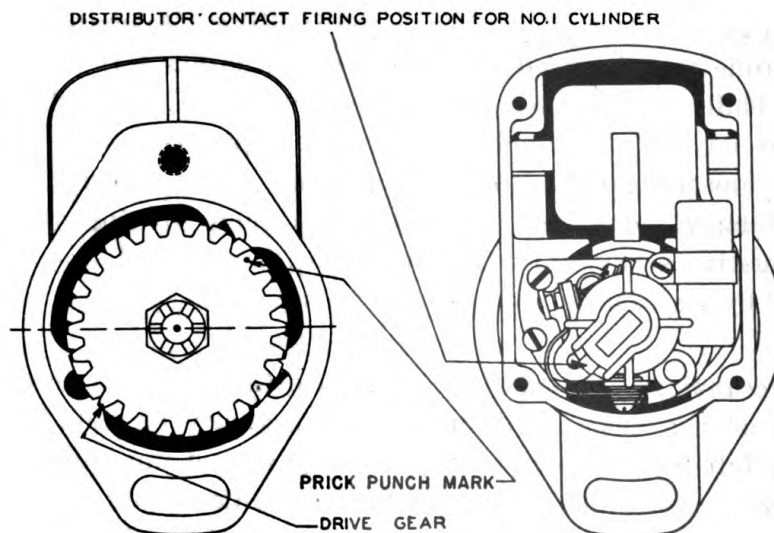

Figure 21.—Drive Gear Marking and Assembly
i. Special Drive Gear.—The magneto is equipped with special drive gears, mounted directly on the impulse coupling. The gear is a slip fit on the extended coupling nut, since movement of the gear with respect to the coupling nut (and rotor shaft) occurs during the impulse period. If it is necessary at any time to remove the drive gear, special care must be exercised in reassembly. First, remove the entire end cap and turn the rotor until the contact segment is in firing position for No. 1 cylinder (fig. 21). With the rotor in this position, fit the gear to the coupling lugs so that the prick punch mark on the rim of the gear is in the position shown (fig. 21).